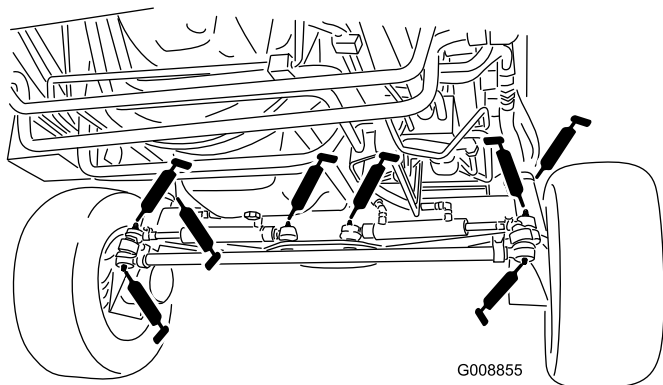

Figure 51
- 4 steering cylinder ball joints (Figure 51)
- 2 tie rod ball joints (Figure 51)
- 2 king pin bushings (Figure 51)